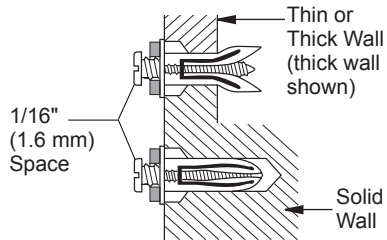

Figure 8 - Tightening Anchors
5. Tighten two screws until 1/16" (1.6 mm) space (thickness of penny) is between screwheads and wall (see Figure 8).